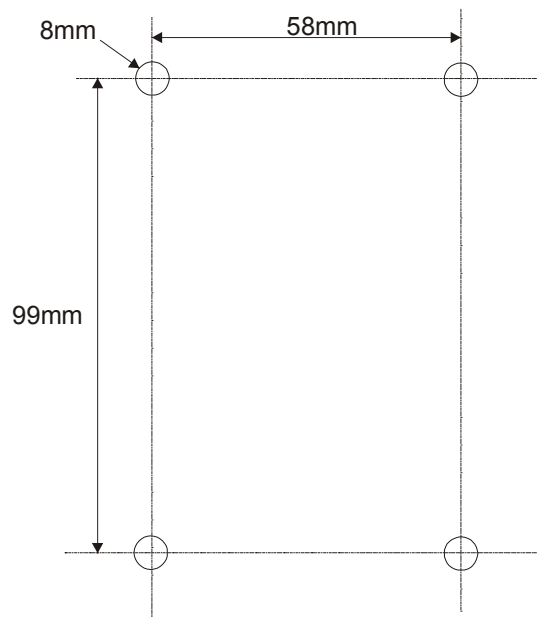

Figure 6-5: BSR mounting bracket dimensions for the four fixing holes
2. Attach the mounting bracket to the wall using four screws. The fixing dimensions for the mounting bracket are illustrated in Figure 6-5